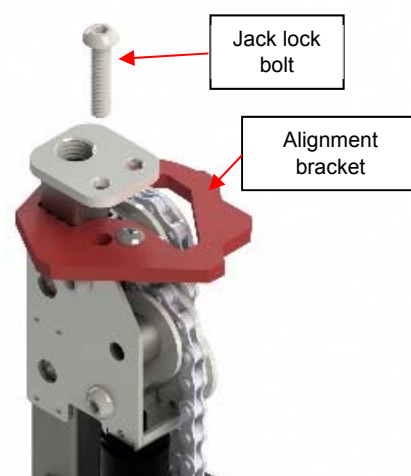

Figure 52
- 17) Once all drive shafts have been installed, the jack lock bolts located at the top of the non-motor-side jacks can safely be removed. Remove the Allen M8 x 50 mm bolts, and **keep them for future use.** (Figure 52)